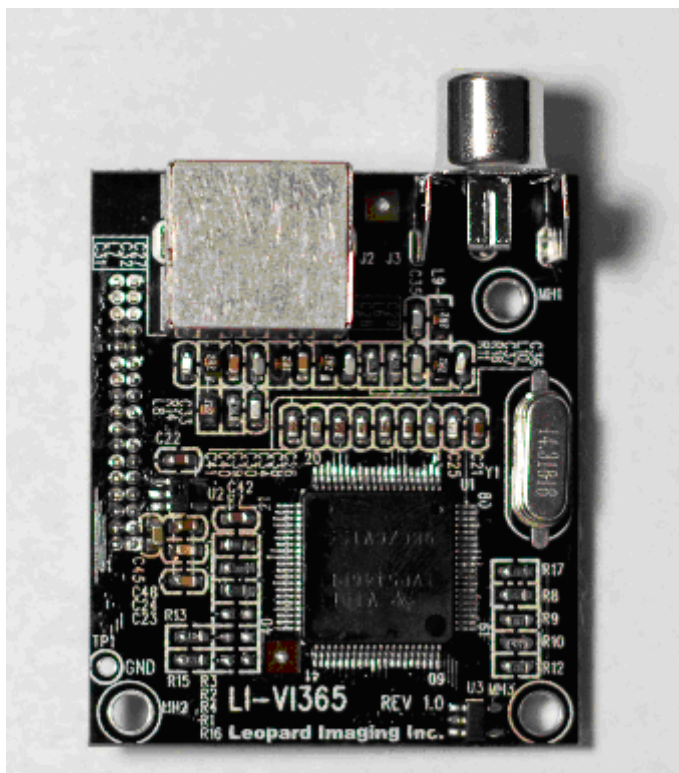

Figure 17. Video Input Board
1.2.7 Video Input board, see Figure 17